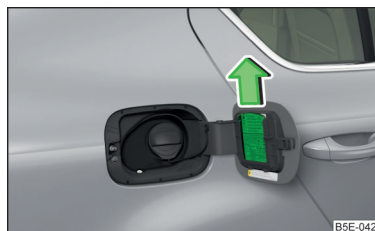

Fig. 191
- > Slide out the ice scraper in the direction of the arrow » Fig. 191.